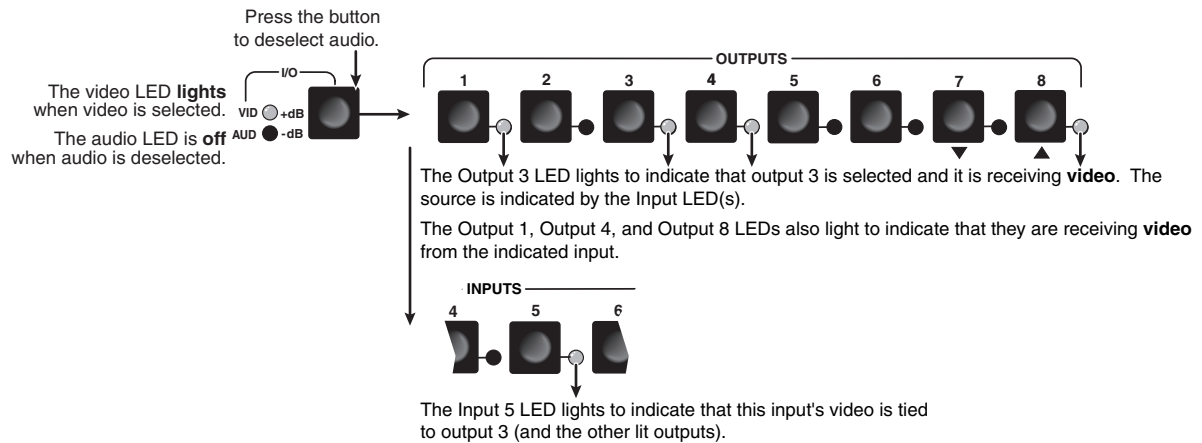

Figure 3-24 — Deselect audio to view video ties only
3. Press and release the I/O button (figure 3-24).